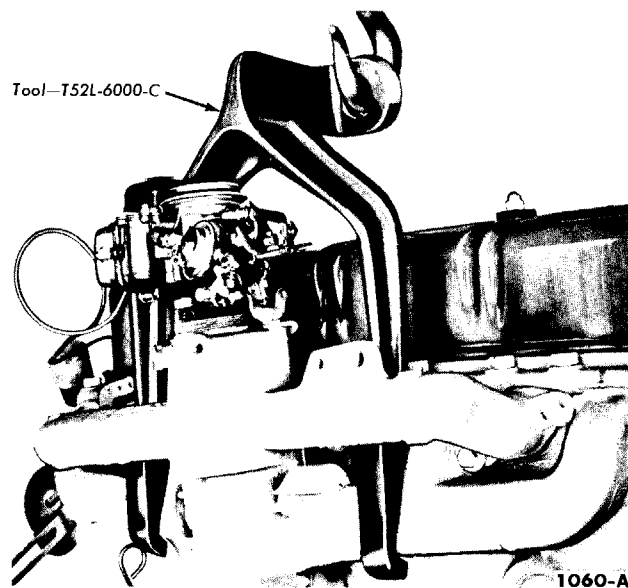

FIG. 8—Engine Lifting Hook
13. Attach the engine lifting hook (Fig. 8). Raise the engine slightly, then carefully pull it from the transmission. Lift the engine out of the chassis, then install it on a work stand (Fig. 9).